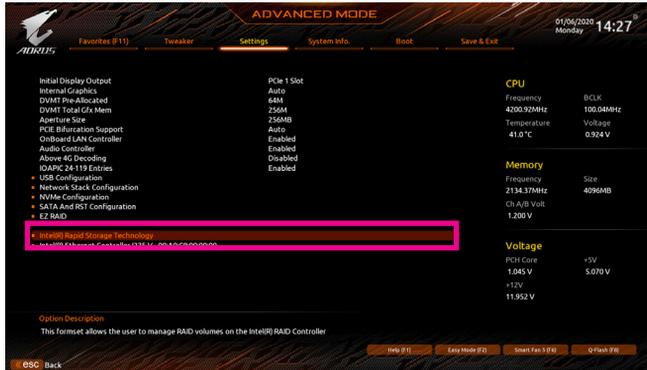

Figure 7
After the system reboot, enter BIOS Setup again. Then enter the **Settings>IO Ports>Intel(R) Rapid Storage Technology** sub-menu (Figure 7).